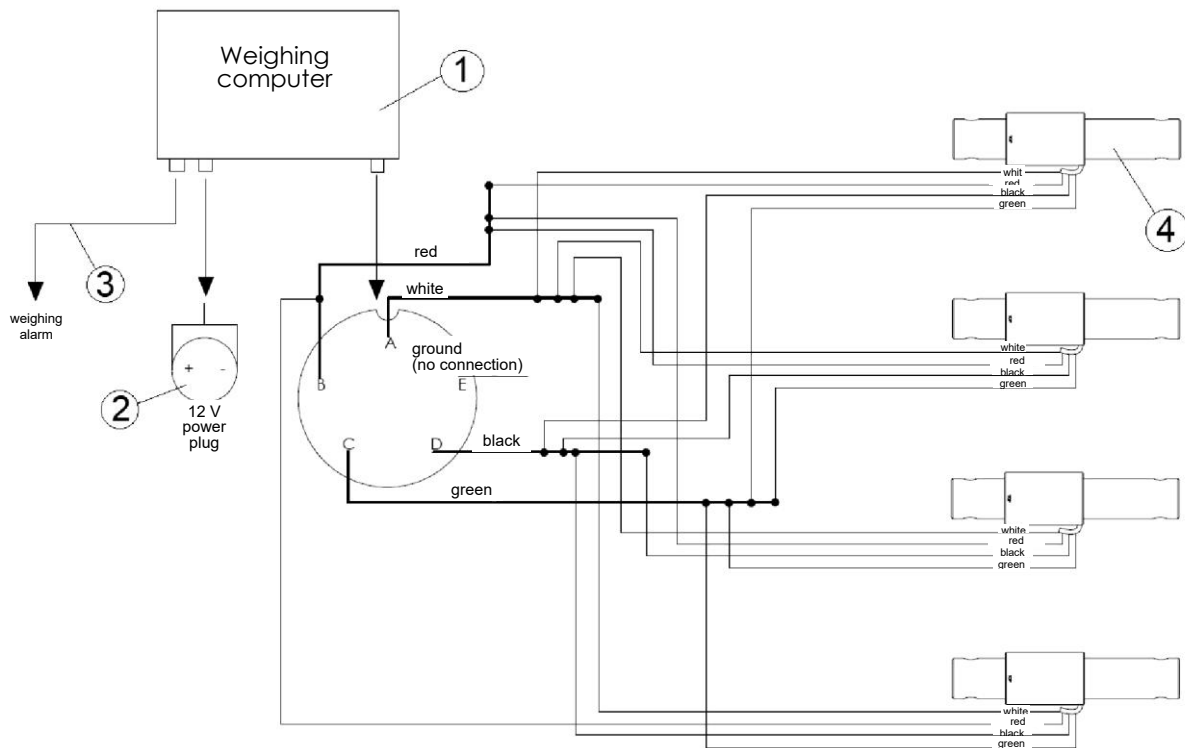

Figure 32. Diagram of the balance system: 1 - weighing computer, 2 - power plug with cable, 3 - weighing alarm with cable, 4 - weighing sensor
Figure 32 presents a diagram of the balance system and its connections. The weighing computer (1) located at the front of the machine and the tensors (4), the arrangement of which is shown in Fig.12, Fig.13 and Fig.14, are responsible for weighing the amount loaded into the feeder wagon. Depending on the variant, there may be 4 or 3 balance tensors. They are connected to a weighing computer, which receives electrical signals from the tensors and these signals provide the basis for displaying the weight of the loaded feedstock on the screen. The balance is powered from the tractor's 3-pin socket, to which the power plug (3) must be connected.